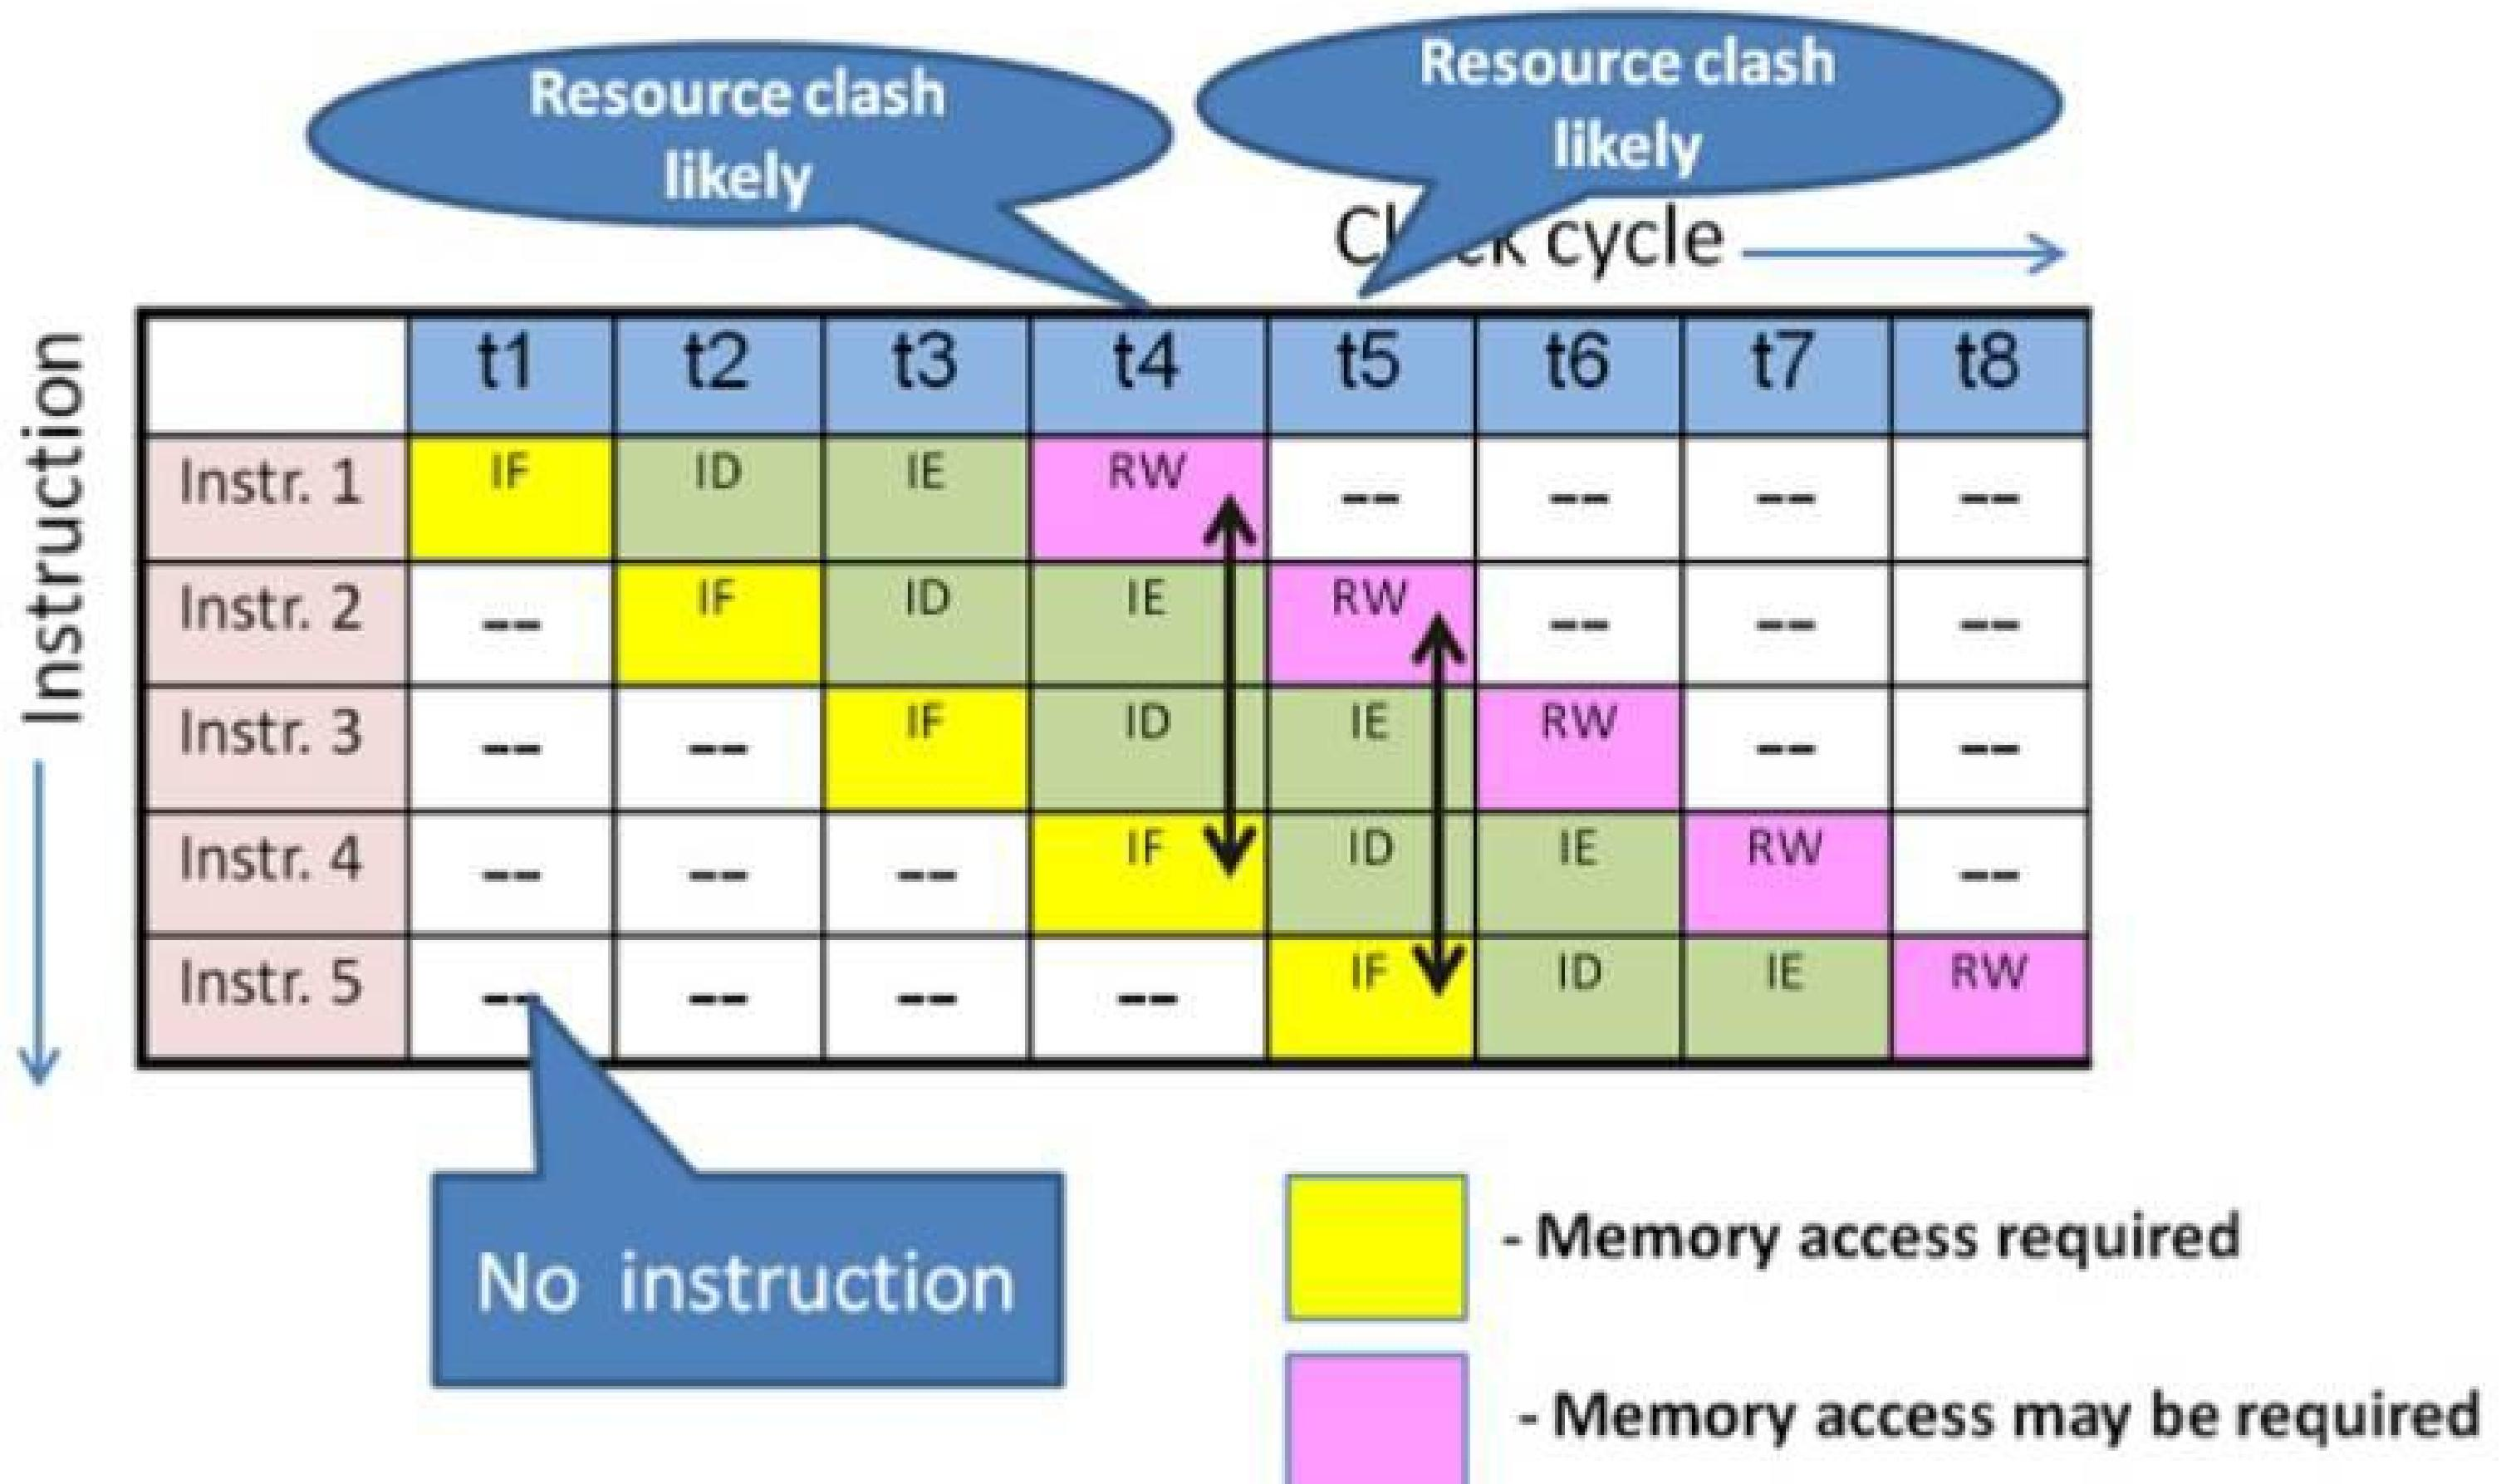

Figure 16.1 Structural dependency scenario
Observe the figure 16.1. In any system, instruction is fetched from memory in IF machine cycle. In our 4-stage pipeline Result Writing (RW) may access memory or one of the General Purpose Registers depending on the instruction. At t4, Instruction-1(I1) is at RW stage and Instruction-4(I4) at IF stage. Alas!. Both I1 and I4 are accessing the same resource i.e memory if I1 is a STORE instruction. How is it possible to access memory by 2 instructions from the same CPU in a timing state? Impossible. This is structural dependency. What is the solution?